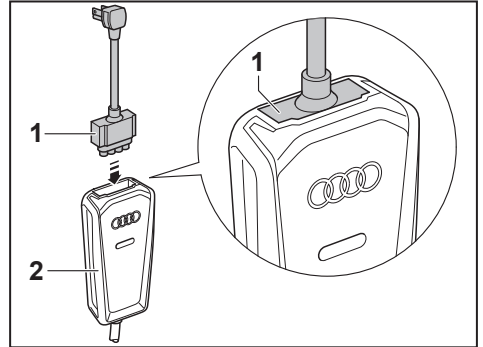

Fig. 4: Loosen or fasten the adapter line.
- Pull adapter line Fig. 4 -1- out of the display unit -2-.
- Plug adapter line Fig. 4 -1- into the display unit -2- as shown. Make sure that the adapter line is plugged in completely (Fig. 4, magnifying glass).